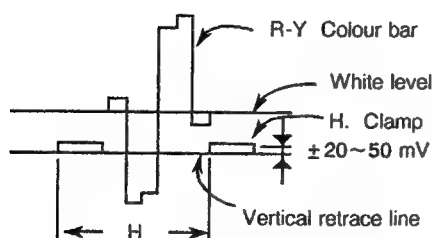

Figure 3.
6. Adjust LM03 so that the white level in picture part reaches to the vertical retrace line. (See figure 3.)